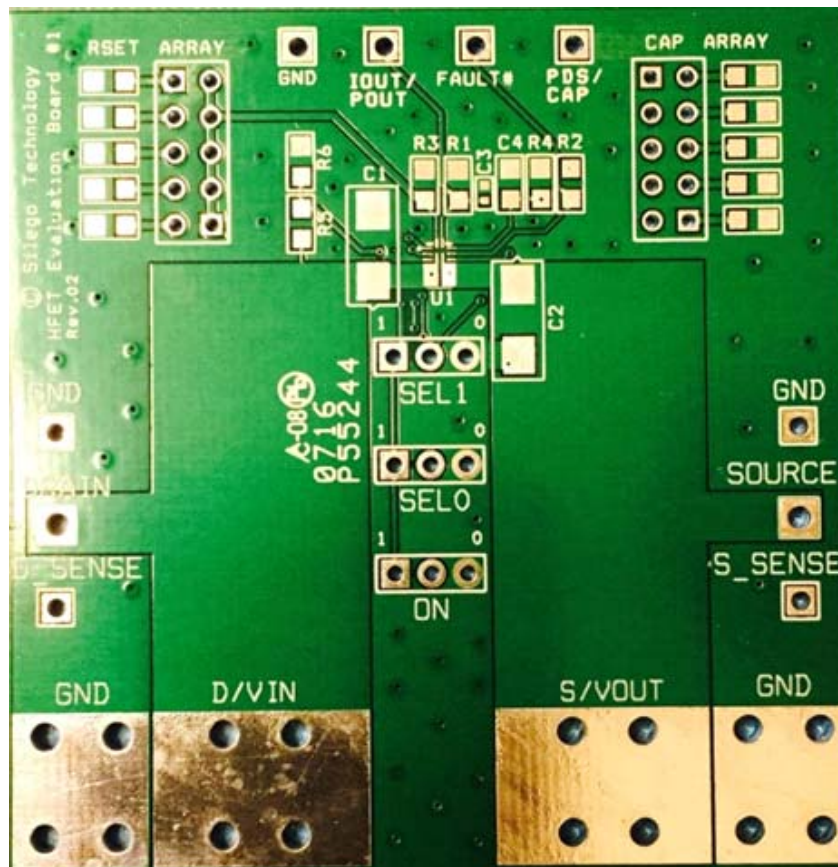

Figure 14. SLG59H1010V Evaluation Board
1. Since the V_{IN} and V_{OUT} pins dissipate most of the heat generated during high-load current operation, it is highly recommended to make power traces as short, direct, and wide as possible. A good practice is to make power traces with absolute minimum widths of 15 mils (0.381 mm) per Ampere. A representative layout, shown in Figure 14, illustrates proper techniques for heat to transfer as efficiently as possible out of the device;
A HFET1 Evaluation Board for SLG59H1010V is designed according to the statements above and is illustrated on Figure 14. Please note that evaluation board has D_Sense and S_Sense pads. They cannot carry high currents and dedicated only for $R_{DS(ON)}$ evaluation.